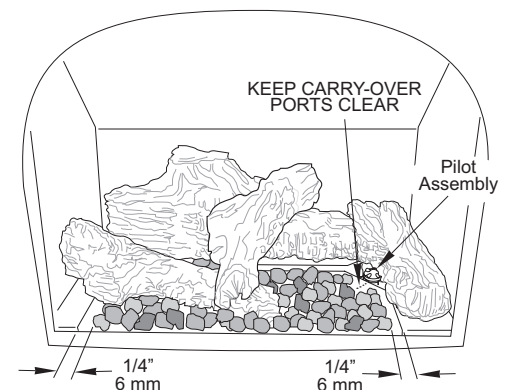

Figure 14. Spread ember stones over the burner plate.
5. Position embers loosely and maintain 6 mm clearance from the burner skirt edges. DO NOT OBSTRUCT THE PILOT ASSEMBLY OPENING and do not pile the embers in front of the burner skirt edges. See fig. 14.